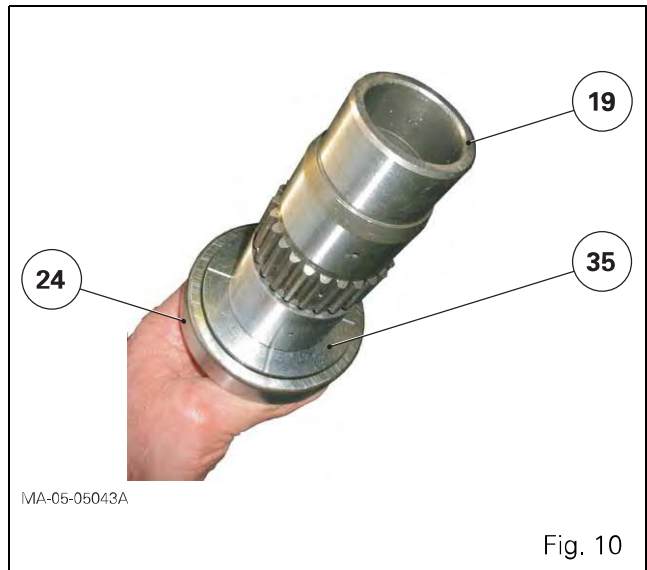

Fig. 10
17. Check that the ports and channels of the secondary shaft (19), the pin (13) and housing (26) are not blocked.
18. Lubricate the secondary shaft, the ring (7) and needle roller bearings (6) and (20).
19. If removed, place the washer (35) on the secondary shaft (19) as shown in Fig. 10.
Fit the ball bearing (24) against the washer (35) (Fig. 10), using a press and a makeshift sleeve (internal $\varnothing = 47$ mm; L = 60 mm).